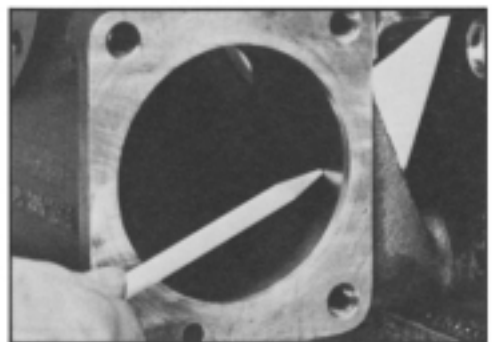

Figure 94
6. Inspect the housing (55) cylinder bore, SEE FIGURE 94. You will probably notice normal scoring marks running lengthwise through the bore. Since this scoring is normal, you should not compare it to the scoring considered detrimental in the cylinder bores of an internal combustion engine. Replace the housing only if you've tested it for internal leakage (as described in the troubleshooting section on page 7) and you've determined that the scoring, and not damaged seals, is responsible for the excessive internal leakage, greater than 1.5 GPM (5.7 liters/min.).